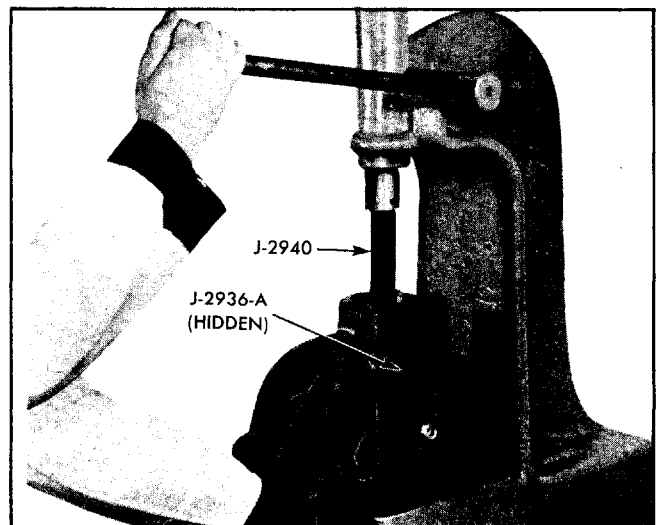

Fig. 4-34 Removing Rear Bearing Outer Race With Remover J-2936-A and Handle J-2940
14. Press pinion rear bearing outer race from carrier using Remover J-2936-A and Handle J-2940 (Fig. 4-34). Use care to prevent race from dropping and causing possible damage to race. Remove pinion adjusting shims from carrier.